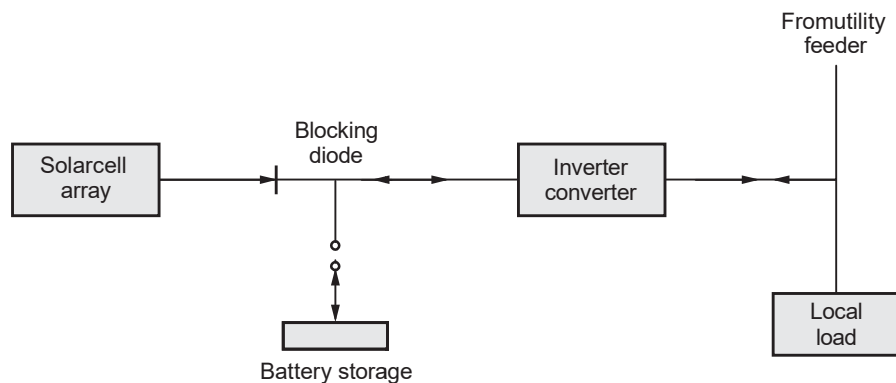

Fig. 2.19.1 Basic Photovoltaic system integrated with power grid
- Fig. 2.19.1 shows a basic photovoltaic system integrated with the utility grid.